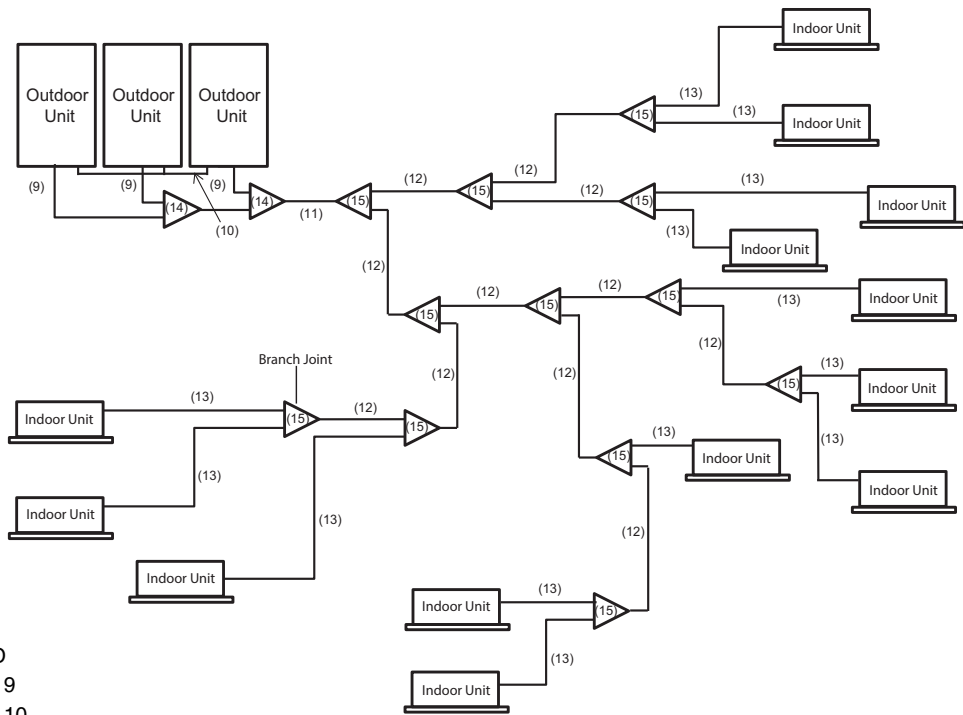

Fig. 25 — Typical Refrigerant Piping Layout
6. See Fig. 25 for typical refrigerant piping layout.